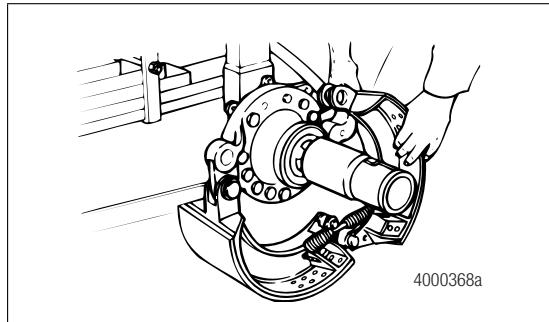

Figure 5.20
- Install a new shoe return spring onto the brake shoe. Figure 5.20. Place the upper brake shoe into position over the spider. Repeat Step 4 and Step 5.